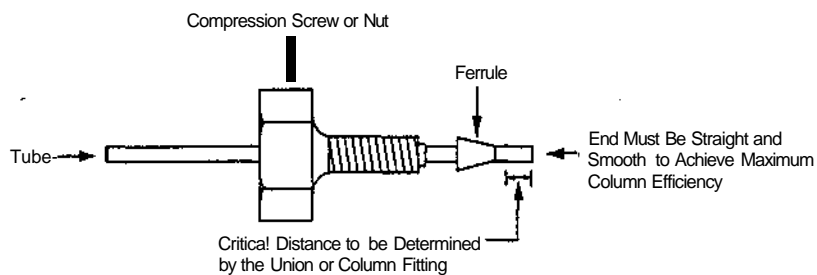

Figure 2-5 Ferrule and Compression Screw Assembly
3. Assemble the connection from the column outlet tubing to the 410 inlet on the front panel by sliding the compression fitting over the .009-inch tubing followed by the ferrule, large end over the tubing first (Figure 2-5).